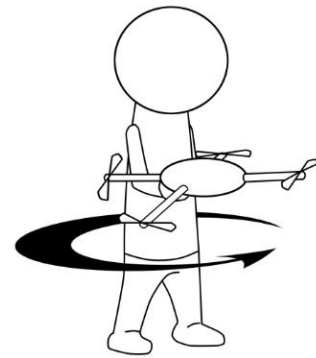

Figure 37
5. **Hold the aircraft horizontally** (within a status error of 5° which can be maintained if you hold the aircraft with both hands, as shown in Figure 37), turn around two or three times slowly making sure that the blue LED stays lit. If the blue LED goes off, stop and adjust the aircraft, before continuing.